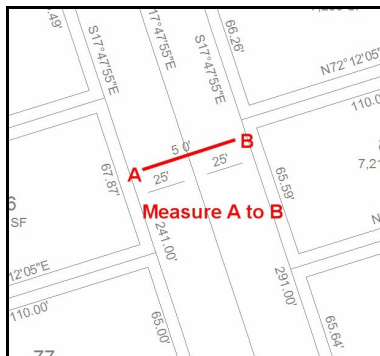

Figure 2
- Measure the distance between Point A and Point B on Figure 2.